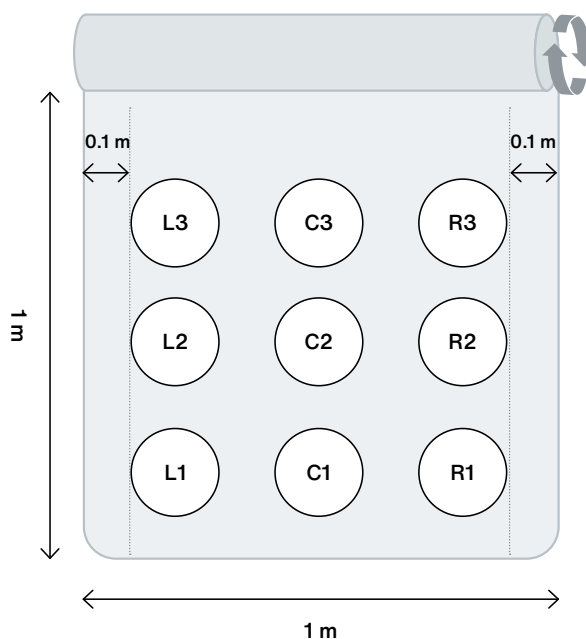

Figure 2. Recommended locations of coupon extraction from a 1-meter wide roll (L: Left, R: Right, C: Center).
- A total of 9 coupons tested is recommended for the entire cross-web performance measurement (3 coupons in the left lane, 3 coupons in the center lane, and 3 coupons in the right lane) (refer to Figure 2).